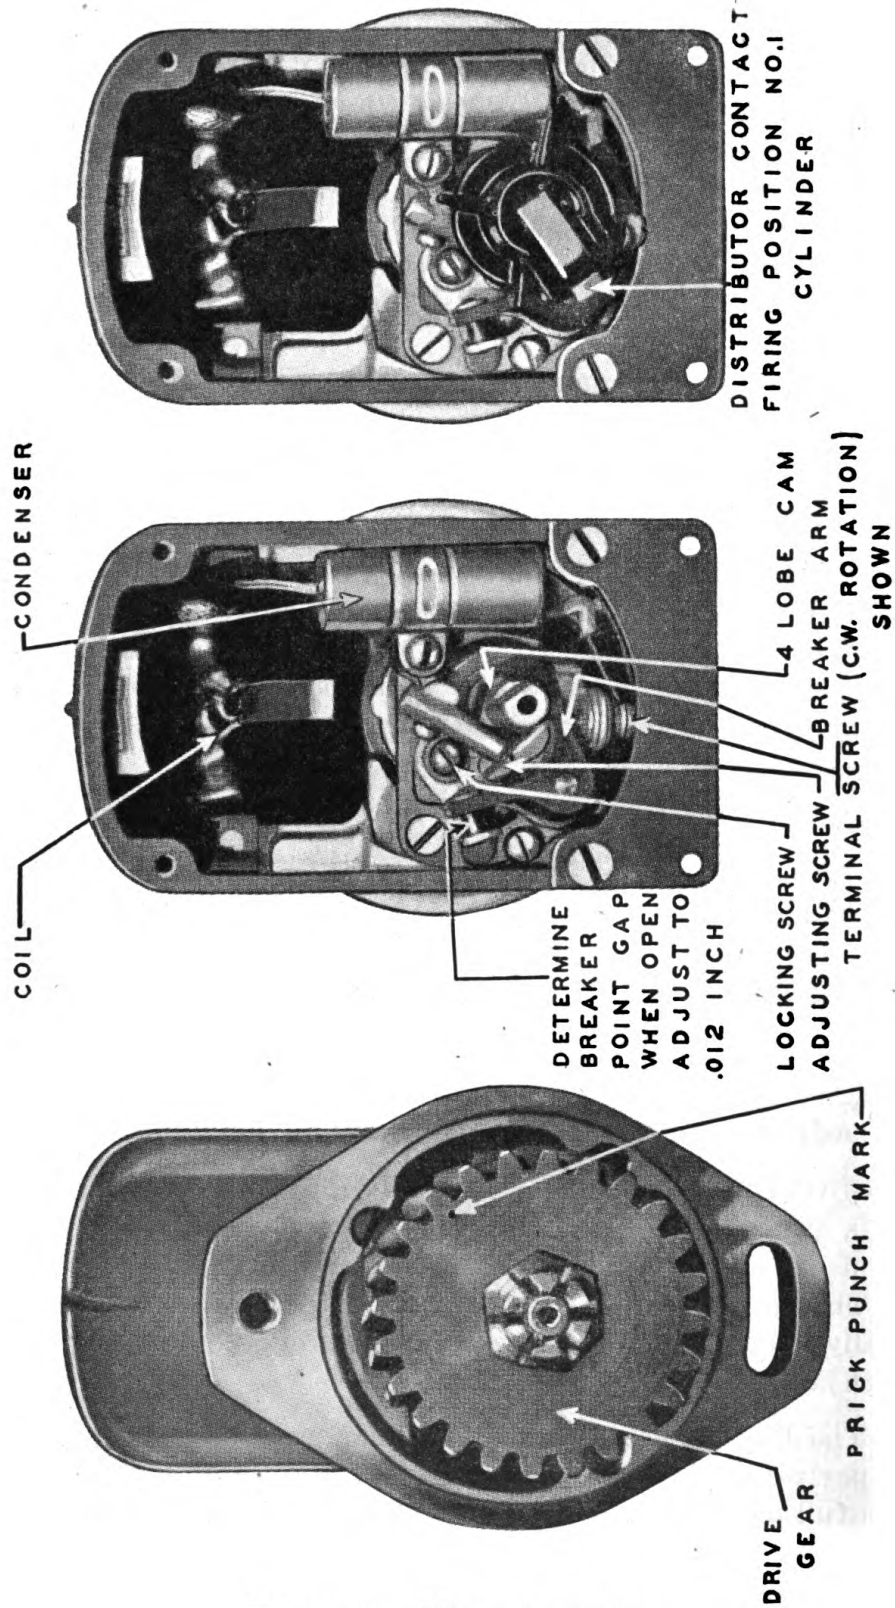

Figure 8.—Magneto parts
*f. Service of breaker contact points.*—Contact point adjustment necessitates removal of the distributor housing which has a sealed gasket joint with the metal housing. The contact points should be examined for evidence of pitting or pyramiding. A small tungsten file or fine stone may be used to resurface the points. If the points are worn or badly pitted, they should be replaced. Points should be adjusted to have an .018 inch gap at full separation. Adjustment is made by loosening the round head locking screw at the upper end of the stationary point bracket (figure 8), then turning the eccentric head adjusting screw until the proper gap is obtained and locking the assembly by tightening the round head screw. Always recheck the adjustment after tightening the locking screw to make sure the adjustment has not shifted.
*i. Special drive gear.*—The magneto is equipped with special drive gears, mounted directly on the impulse coupling. The gear is a slip fit on the extended coupling nut, since movement of the gear with respect to the coupling nut (and rotor shaft) occurs during the impulse period. If it is necessary at any time to remove the drive gear, special care must be exercised in reassembly. First, remove the entire end cap and turn the rotor until the contact segment is in firing position for No. 1 cylinder (figure 8). With the rotor in this position, fit the gear to the coupling lugs so that the prick-punch mark on the rim of the gear is in the position shown.